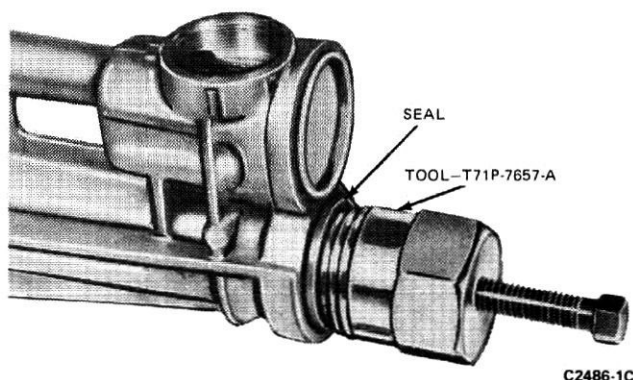

FIG. 17 Removing Extension Housing Seal
2. Remove the seal from the extension housing using Tool No. T71P-7657-A (Fig. 17).